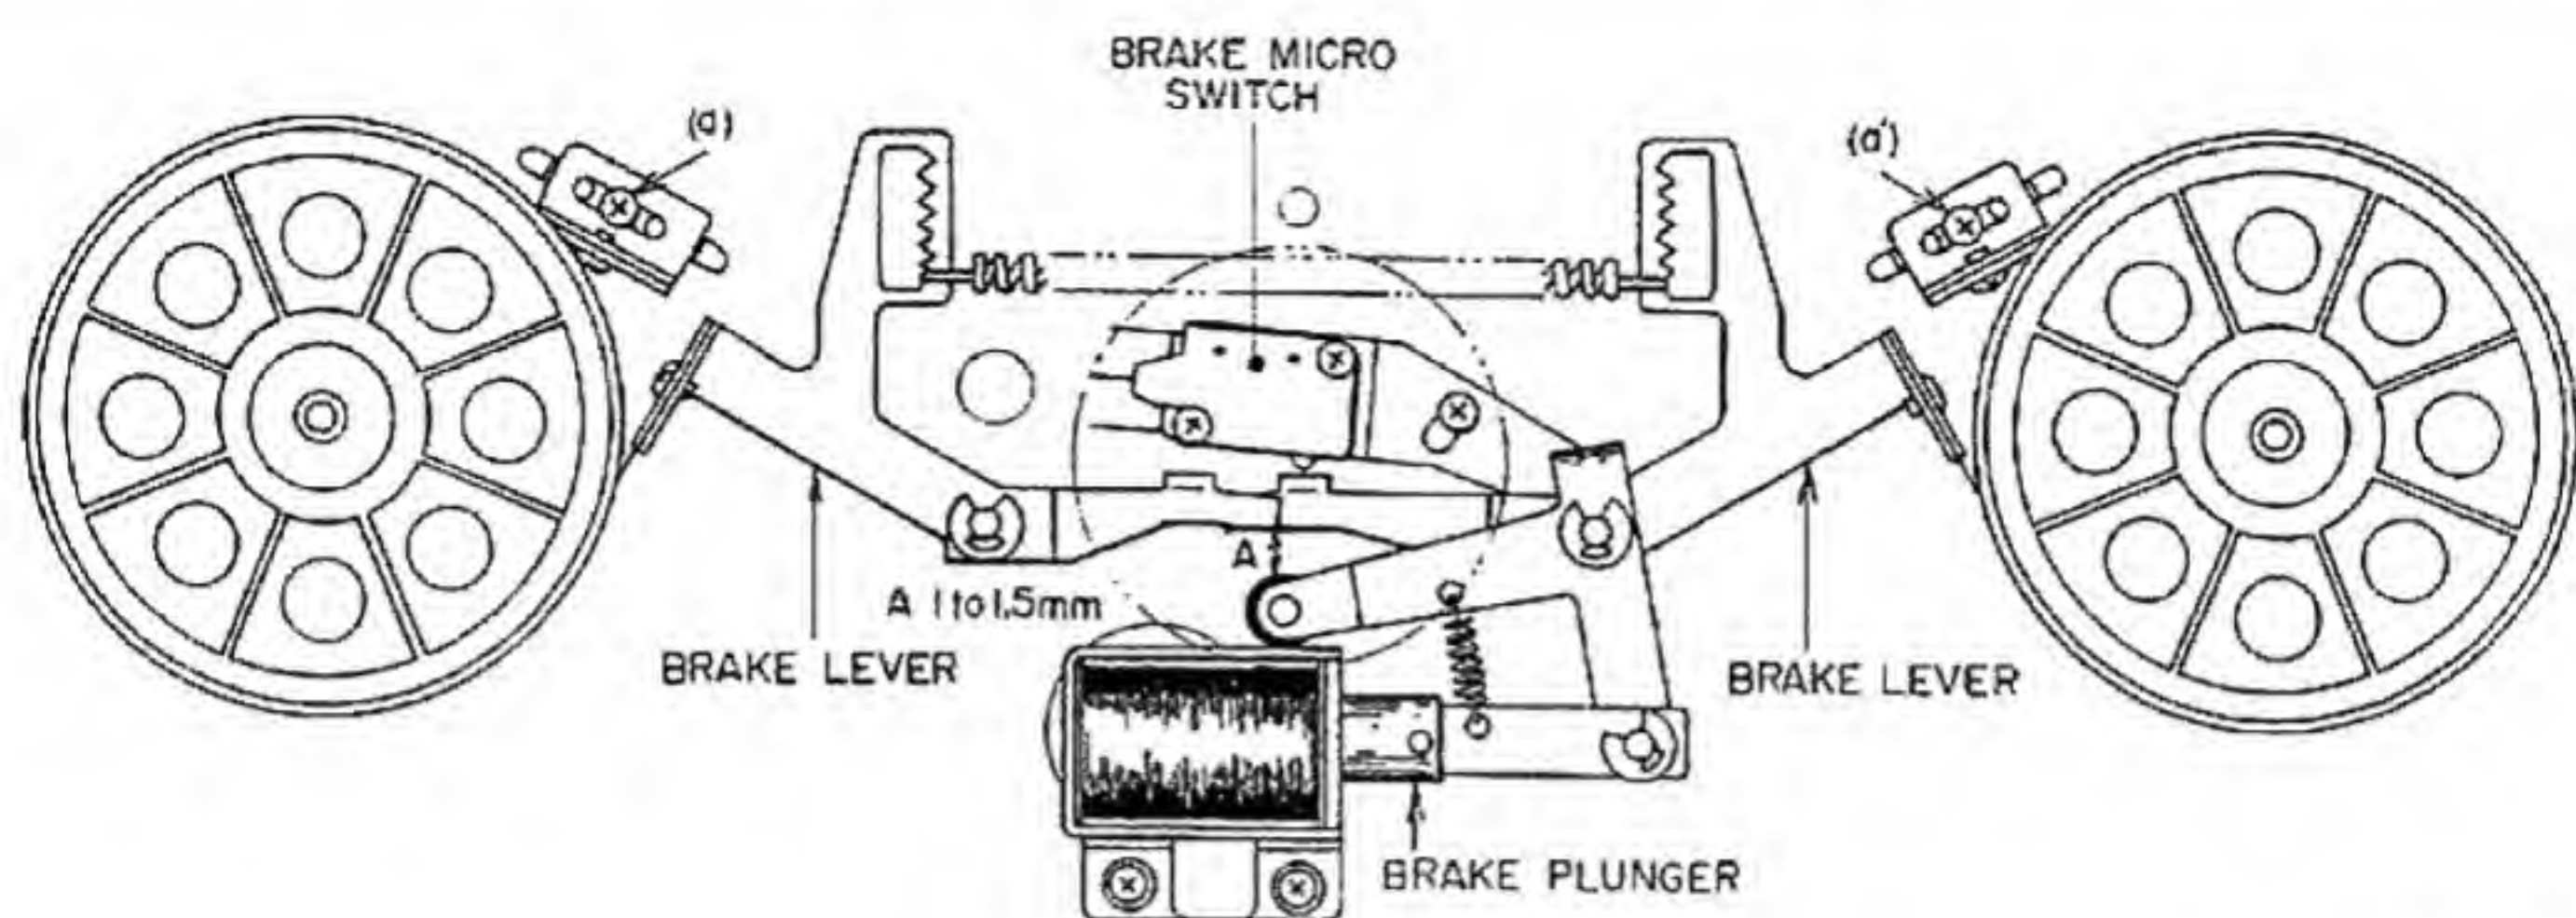

Fig. 36
5. BRAKE BAND POSITION ADJUSTMENT AND BRAKE TENSION ADJUSTMENT (Refer to Figs. 36, 37, 38)